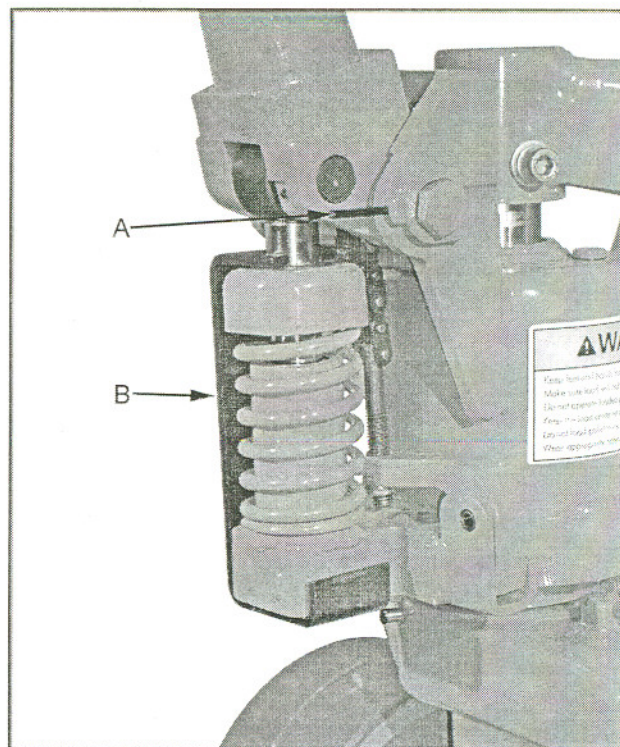

Fig. 3
6. Using a hammer, tap the spring pins (A, Fig. 3) into the pump bracket and handle pins.
8. Pull the handle down and remove the retaining bracket (B, Fig. 3) by pulling straight out. Discard retaining bracket.